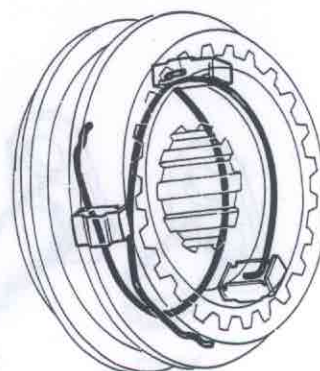

Fig. 43-109. Placing springs
11. Place in position the spring for 3rd-4th synchronizing. Note that it should be placed with the resilient part anti-clockwise, Fig. 43-109. Grease the interlock units and fit them, Fig. 43-110. Fit the selector fork on 3rd-4th engaging sleeve and fit the sleeve on the hub.